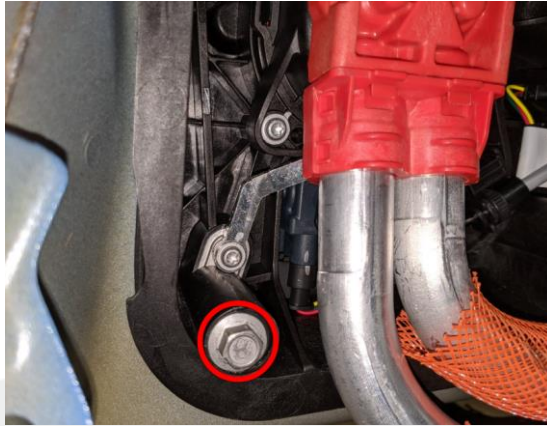

Figure 5
10. Perform a torque check on the bolt that attaches the charge port carrier ground to the body (torque 5.5 Nm) (Figure 5).